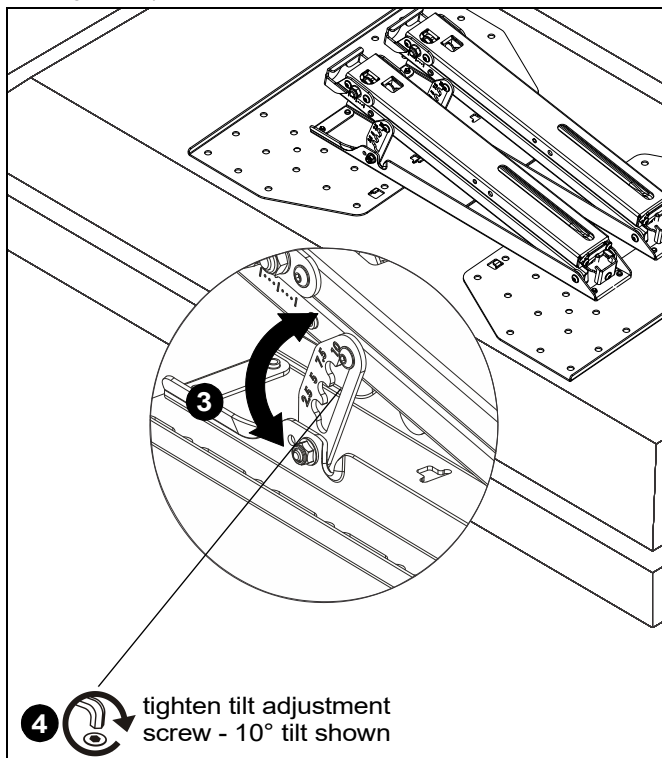

Figure 28
3. Adjust tilt to desired tilt angle. The tilt may be adjusted in 2.5" increments. (See Figure 28)
4. Tighten tilt adjustment screws to lock tilt position. (See Figure 28)